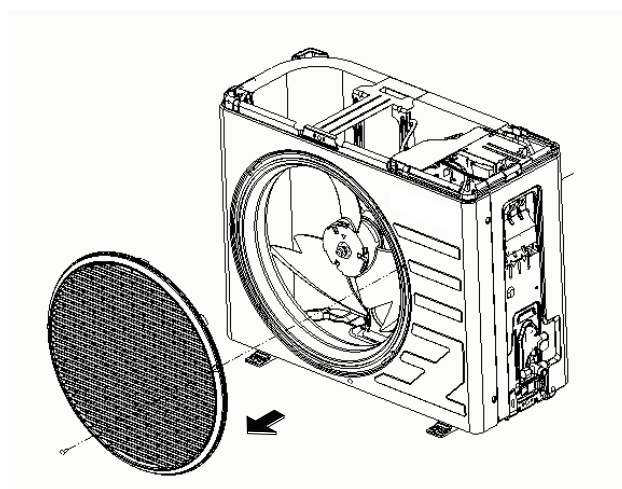

Fig. 54
- (2) Loosen a screw and remove the discharge grill. (Fig.54)